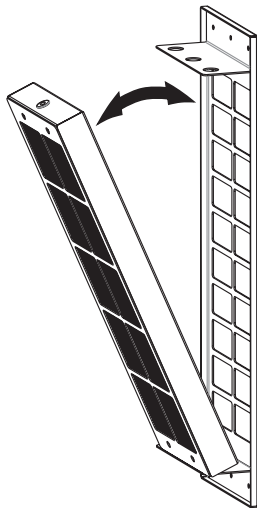

Fig. 17
3. Take the activated carbon filter, as shown in (Fig. 17), out of the filter framework.